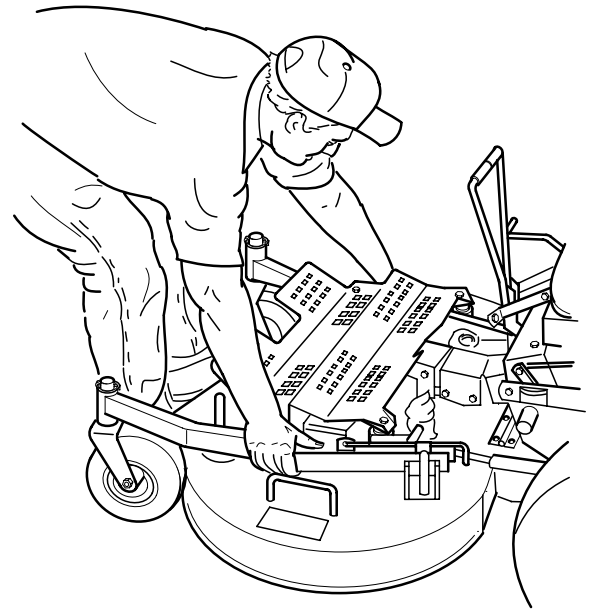

**Figure 4-16 Spring Removal**
2. Tilt the deck and secure in place with the two prop rods (Figure 4-16).
- A. Raise the cutter deck and lock in place using the two prop rods (Figure 4-16).